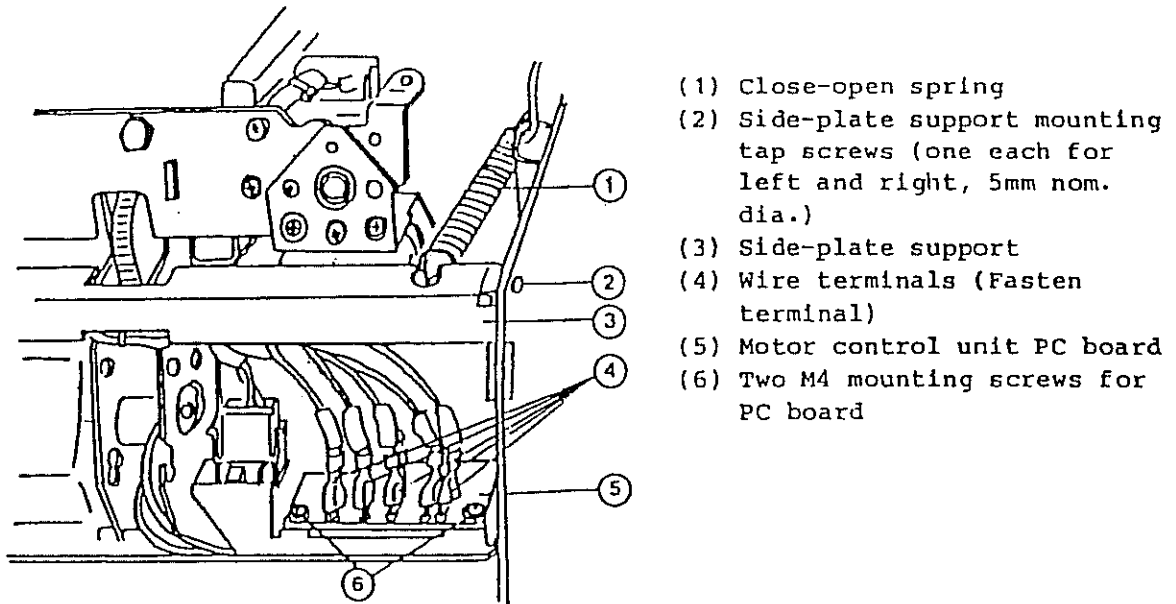
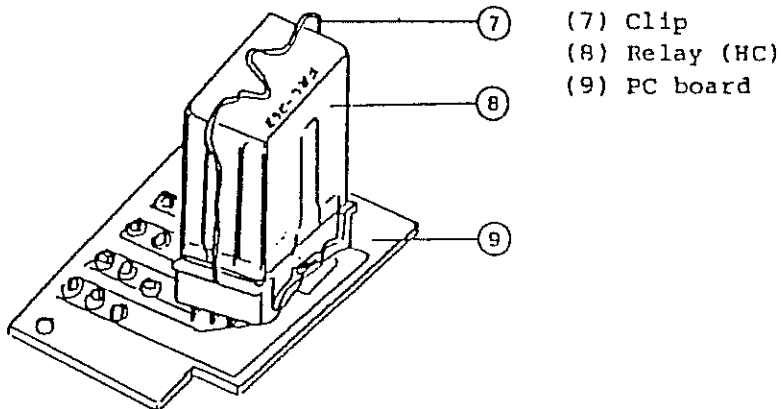

Fig.21 . Motor control unit PC board as mounted (Bottom View).
Fig.22 Relay (HC).
- 3) Set the breaker body so that the bottom surface is visible. (See Fig.21 )
- 4) Remove the close-open spring (Fig.21 -(1)). Do this with utmost care.
- 5) Remove the side-plate support mounting screws (one each for right and left)(Fig.21 (2)) to take out the side plate support (Fig. 21 (3)).
- 6) Remove the two M4 mounting screws for PC board (Fig. 21 (6)).
- 7) Take out the clip fixing the relay (HC)(Fig.22 (6)), and remove the relay (HC)(Fig.22 (8)) from PC board.
NOTE: It is not necessary to remove the connected wire terminals (Fasten terminal)(Fig.21 (4)).
- 8) Insert a new relay (HC) into PC board (Fig.21 (5), Fig.22 (9)), and fix it with a clip.